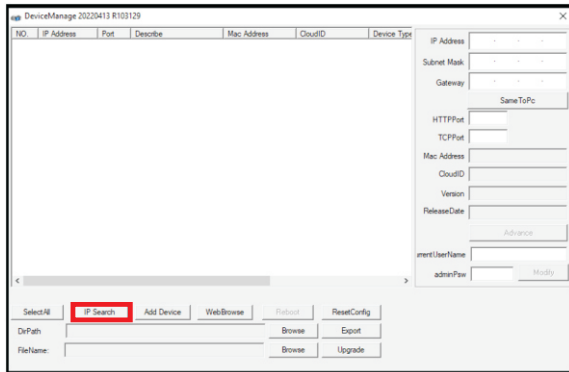

Figure 2. IP Search
- Using the Device Manage Tool, click on the "IP Search" button to search for IP cameras. (See Figure 2)